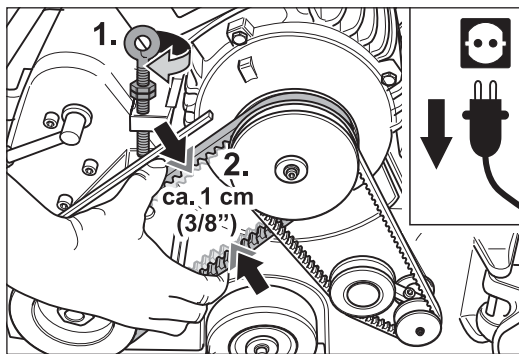

Fig. 100 Tension the drive V-belt by turning the eye bolt at the motor clockwise (1.).
- 4 Tension the drive V-belt for the sanding drum by turning the eye bolt at the motor clockwise (Fig. 100, 1.).
The slack on the V-belt should be approx. 1 cm (3/8") if compressed with normal effort (Fig. 100, 2.).